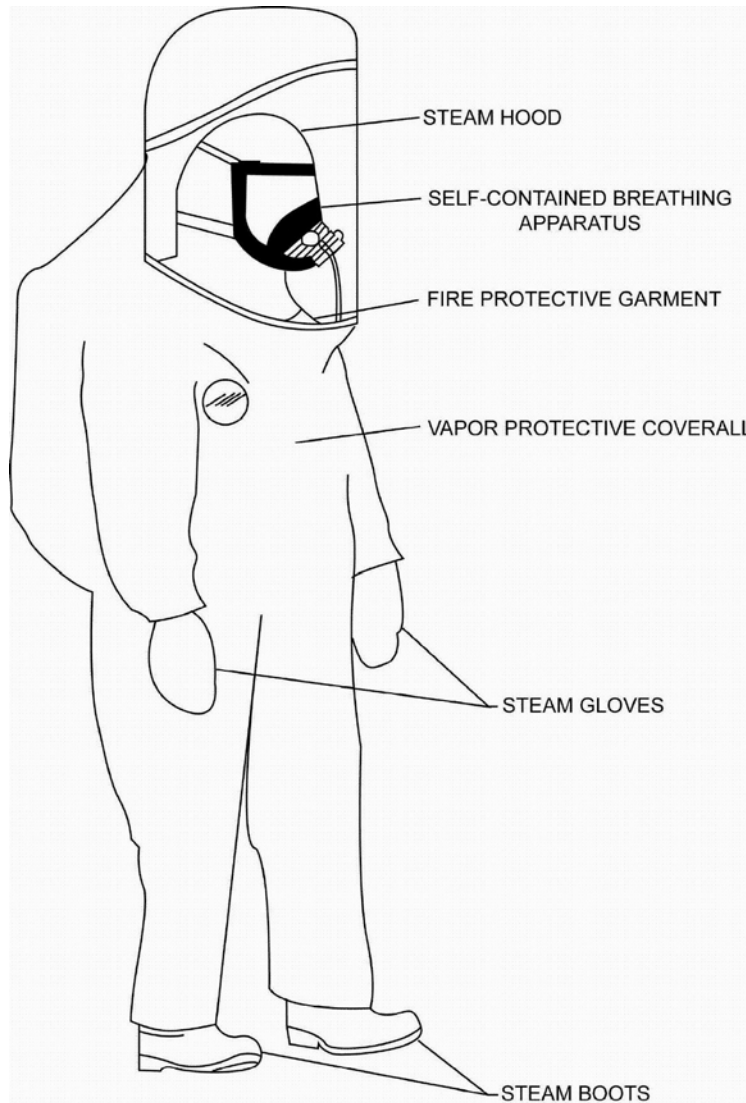

Figure 077-5-4. Steam Protective Ensemble
**077-5.4.1 GENERAL.** The steam protective ensemble, as shown in Figure 077-5-4, consists of six components, which must be worn as prescribed below to provide the necessary protection.